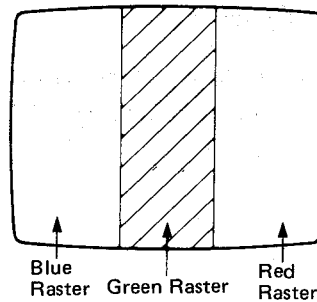
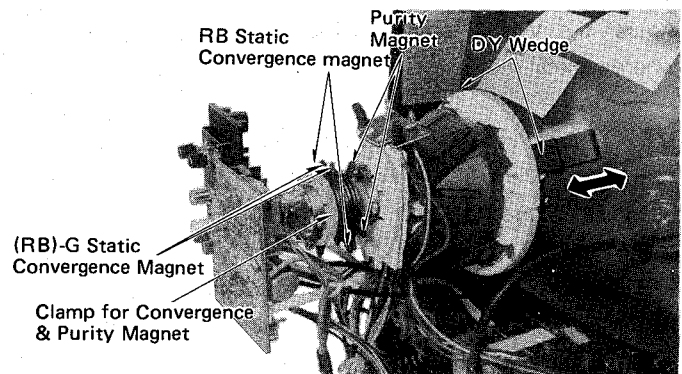

Figure 4
Figure 7
(See figures 4, 6 and 7)
7. Loosen purity magnet clasper (See figure 7) and adjust the purity magnet to set the vertical green raster precisely at the center of the screen (See figure 4). Then tighten the clasper.
3. Loosen the convergence magnet clamp and converge the red and blue dots at the center of the screen, by rotating the R-B Static Convergence Magnet. (See figure 7)
4. Align the converged red/blue dots with the green dots at the center of the screen, by rotating the (RB)-G Static Convergence Magnet. (See figure 7)
6. Remove the DY wedges (See figure 7) and slightly tilt (do not rotate) the deflection yoke horizontally and vertically to obtain good overall convergence.